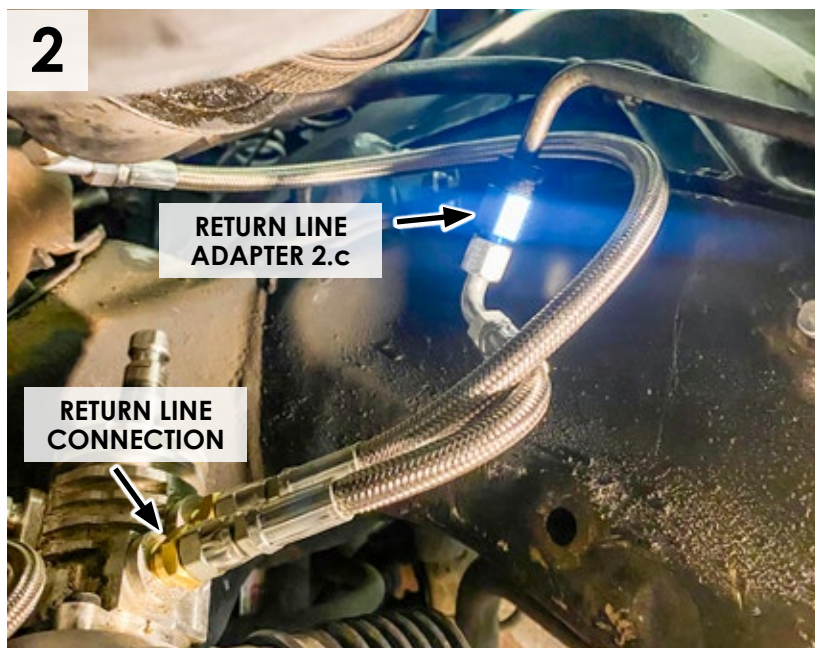

FIGURE 1:
1. Connect Pressure Line (Long Hose **2.b**) from steering pump to Top Pressure Port on the power rack using fitting **2.d**. Make sure that an O-RING (**2.f**) is added to the fitting shown by **FIGURE 1**.
2. Connect Return Line (Short Hose **2.a**) from rack & pinion (bottom port) using fitting **2.e** to Factory Power Steering cooler line using supplied adapter **2.c**. Make sure that an O-RING (**2.f**) is added to the fitting shown by **FIGURE 1**.